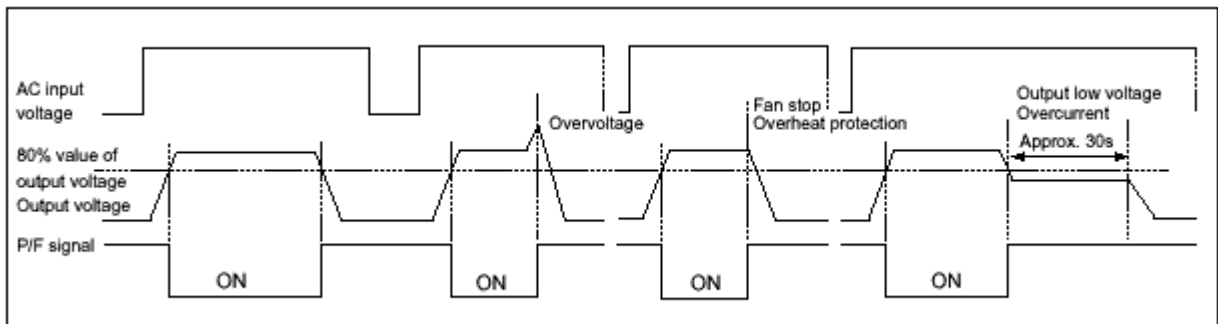
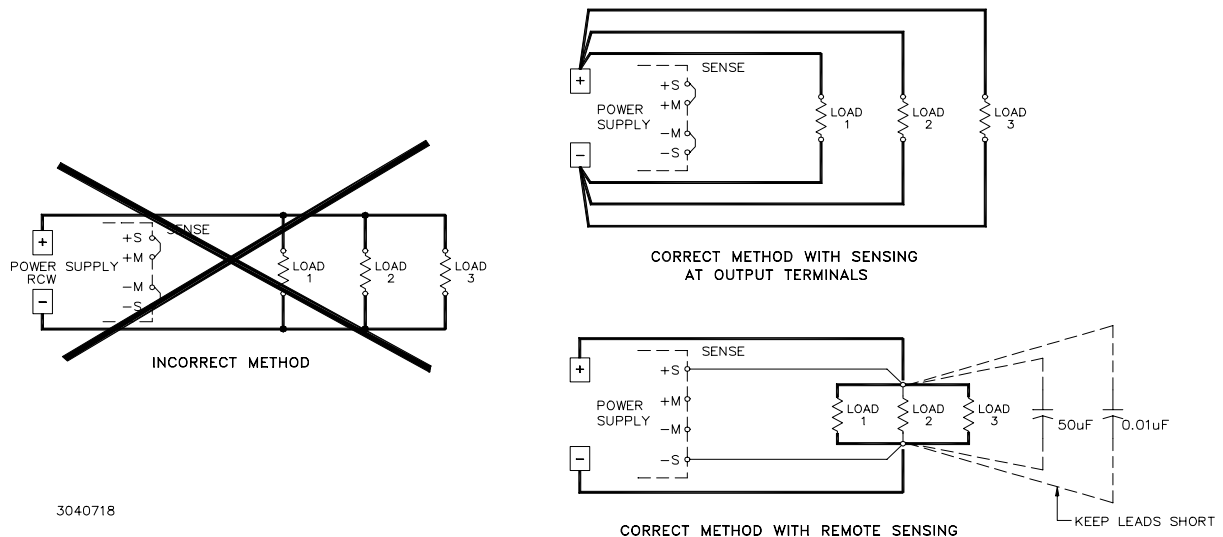

FIGURE 3. RKW 1500W POWER FAILURE TIMING DIAGRAM
FIGURE 8. CORRECT AND INCORRECT METHODS OF LOAD CONNECTION
3. DC output terminals (+, -) - Connect to load (see Figure 8).
4. Remote sensing terminals (+S, -S) These terminals are used to compensate voltage loss in the connecting lines from the output terminal to a load; they are connected to DC output terminals for local sensing (see Figure 8).
6. Remote voltage adjustment terminal (RV) - This terminal (together with the REF terminal) is used for remotely controlling output voltage (see PAR. 4.2).
7. Current balance terminal (CB) - This terminal is used when several power supplies are connected in parallel (see PAR. 6.3).
8. Power failure terminal (+PF, -PF) - These terminals output an open logic signal if output voltage drops to 80 % or lower of a set voltage, or if output voltage is shut down due to overvoltage or overcurrent protection, fan speed failure, or overheating. (see Figure 3).
To connect the load for local sensing, (the sensing links are installed at shipping) connect the +S to +M terminals and -S to -M terminals. The load is connected across DC output (+) and (-) bus bars (see Figure 8).
For remote sensing the load is connected as shown in Figure 8. Remote error sensing at the load terminals compensates for voltage loss in the connecting wires as indicated in Table 2. For remote sensing, the sensing links must be removed from the +S to +M and -S to -M terminals. NOTE: If oscillations set off the overvoltage protection, install one external electrolytic capacitor, rated 470 $\mu$ F min. between the +M and +S terminals and one between the -M and -S terminals.